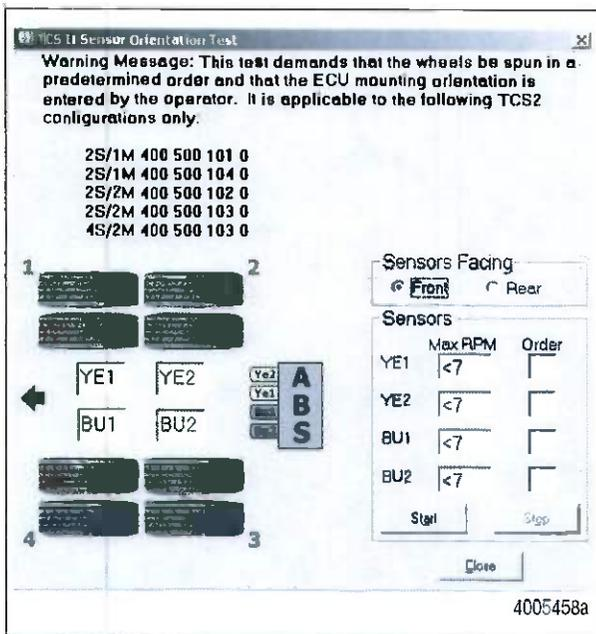
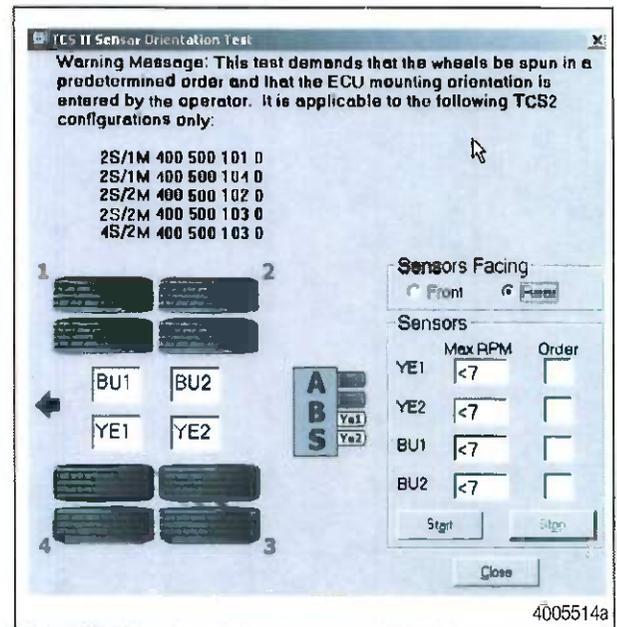

Figure 23
Figure 24
4. At the **Trailer Main Menu**, click on **Component Test**, then select **Sensor Orientation Test** to display the **Sensor Orientation Test** screen. Figure 23.
5. Click on **Front** or **Rear** in the **Sensors Facing** field to select the mounting orientation of the ECU/dual modulator valve assembly. Figure 24.
Refer to Figure 23 and Figure 24 for illustrations of the ECU mounted with sensors facing forward and rear. The correct mounting orientation must be selected prior to starting the test (Step 5).
- Follow the screen prompts, starting with 1, to rotate each sensed wheel end at a rate of 1/2 revolution per second. This rate equals a wheel speed of approximately 4 mph (7 kph). As each sensed wheel is rotated, check the color of the sensor identification block on the screen for results. Sensor identification boxes are located in the bottom left portion of the **Sensor Orientation Test** screen. Figure 24.
- Verify there is sensor output. If there is no sensor output, verify that a tone ring has been installed and that the sensor is pushed all the way in against the tone ring. Perform the necessary repairs and repeat the test. If the problem persists, contact Meritor WABCO (800-535-5560). Sensor output appears in the Sensors field located in the bottom right portion of the **Sensor Orientation Test** screen. Figure 24.